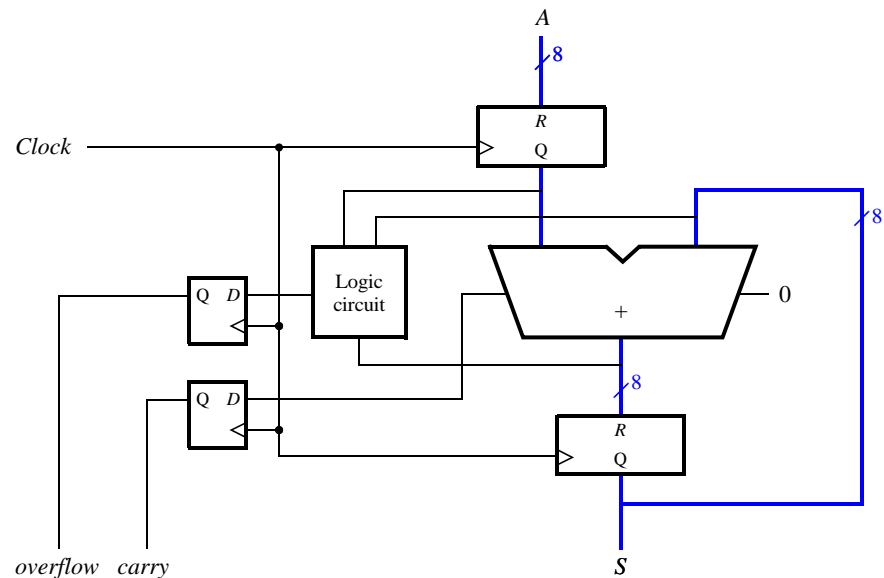

Figure 2: An eight-bit accumulator circuit.
Use this construct to implement a circuit shown in Figure 2. This circuit, which is often called an *accumulator*, is used to add the value of an input  $A$  to itself repeatedly. The circuit includes a carry out from the adder, as well as an *overflow* output signal. If the input  $A$  is considered as a 2's-complement number, then *overflow* should be set to 1 in the case where the output  $sum$  produced does not represent a correct 2's-complement result.
1. Create a new Quartus II project. Write VHDL code that describes the circuit in Figure 2.